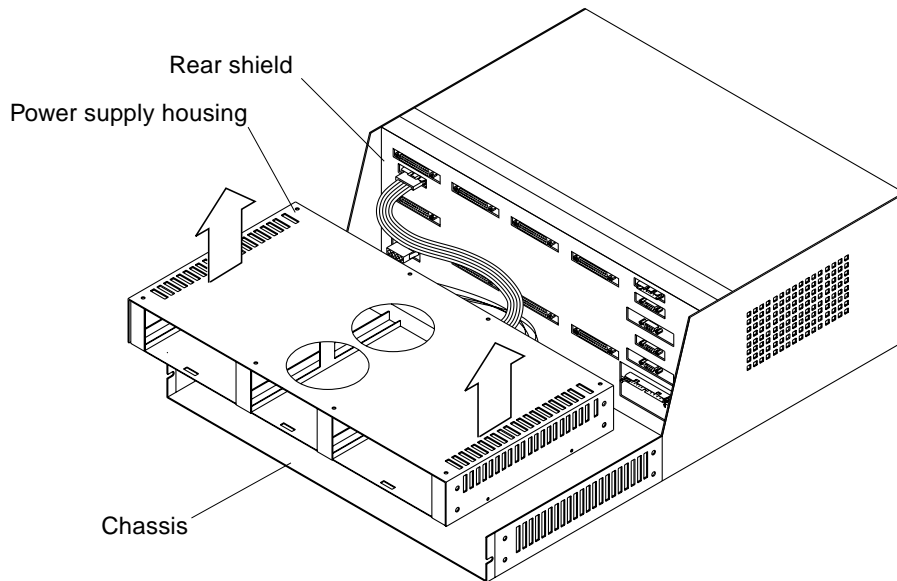

FIGURE 7-7 Removing the Power Supply Housing
c. Lift the power supply housing out of the chassis (FIGURE 7-7).